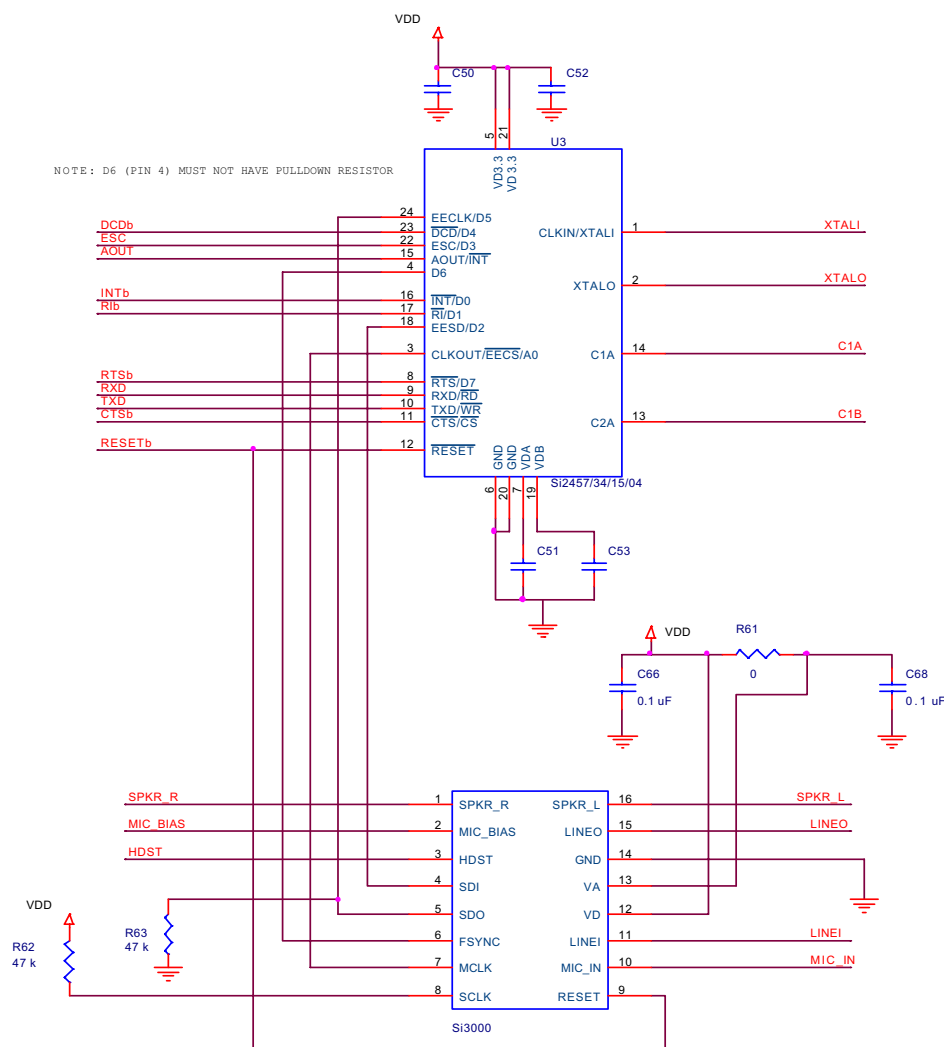

Figure 22. Si2457/Si3000 Connection
Figure 22 shows the actual circuit connection between the Si2493/57/34/15/04 and the Si3000.
1. Connect hardware as shown in Figure 22. If using the Si3000 SSI EVB evaluation board, note that the Si3000 Evaluation Board requires an external 12-volt supply and derives 5 V power from the Si24xx-EVB. The Si24xx-EVB should be connected to the supplied power adapter or powered through USB.